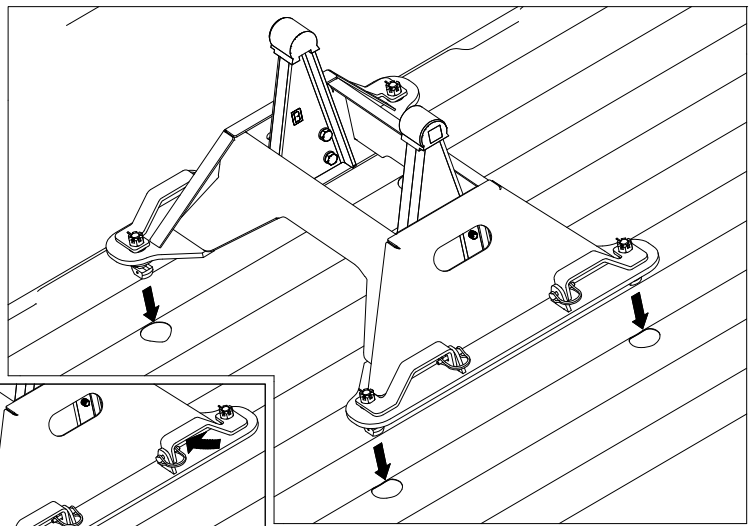

Figure C1:
1. **Place Base.** Remove the latch pins from each side of the base and rotate the handles out, see Figure C1. Place the base over the attachment points and carefully lower it until the latch cams pass through the floor and the base rests flat against the top of the attachment points.